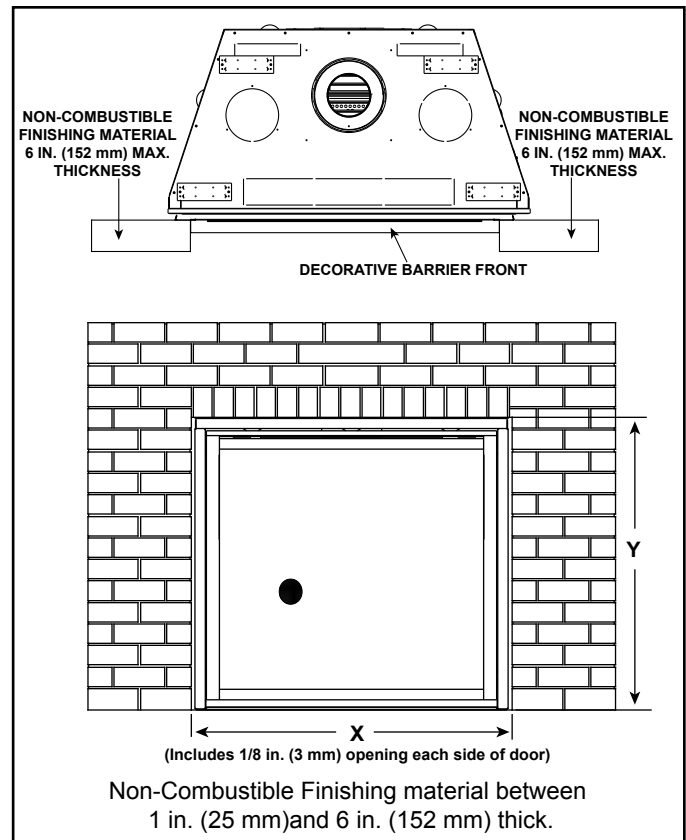

Figure 10.10 Inside Fit Decorative Barrier Front
- Inside Fit as shown in Figure 10.10. Decorative barrier front fits inside appliance opening.